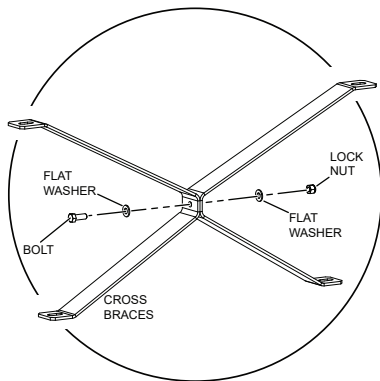

Figure 12. X-Brace
4. Secure cross braces (2) together using a bolt, flat washer (2), and lock nut to form the X-Brace. See Figure 12.